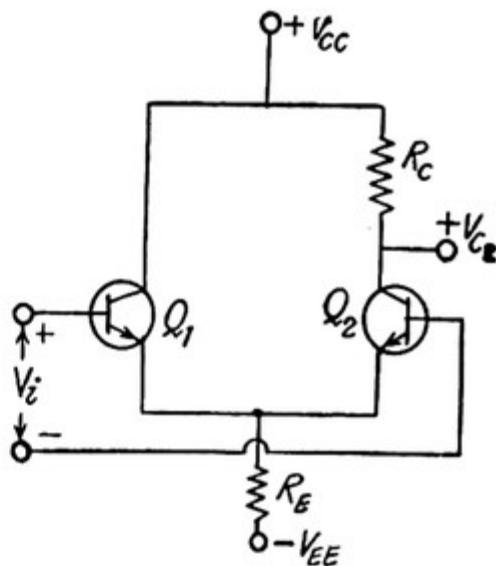

Fig. 9. Single ended input.
(2) *Single ended input* : Circuit is shown in fig. 9. Only half the available output voltage is used, the voltage gain drops in half